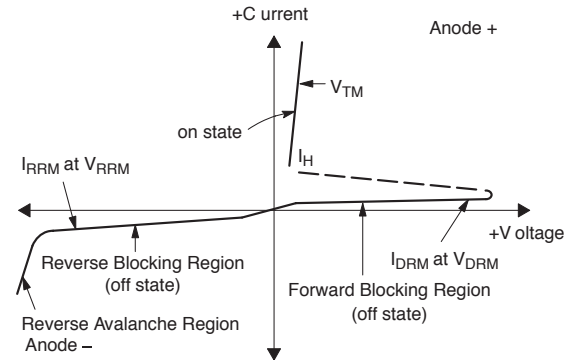

Figure 1. Peak Capacitor Discharge Current
- Ratings apply for $t_w = 1$ ms. See Figure 1 for I_{TM} capability for various duration of an exponentially decaying current waveform, t_w is defined as 5 time constants of an exponentially decaying current pulse.
4. Ratings apply for $tw = 1\text{ ms}$. See Figure 1 for I_{TM} capability for various durations of an exponentially decaying current waveform. tw is defined as 5 time constants of an exponentially decaying current pulse.